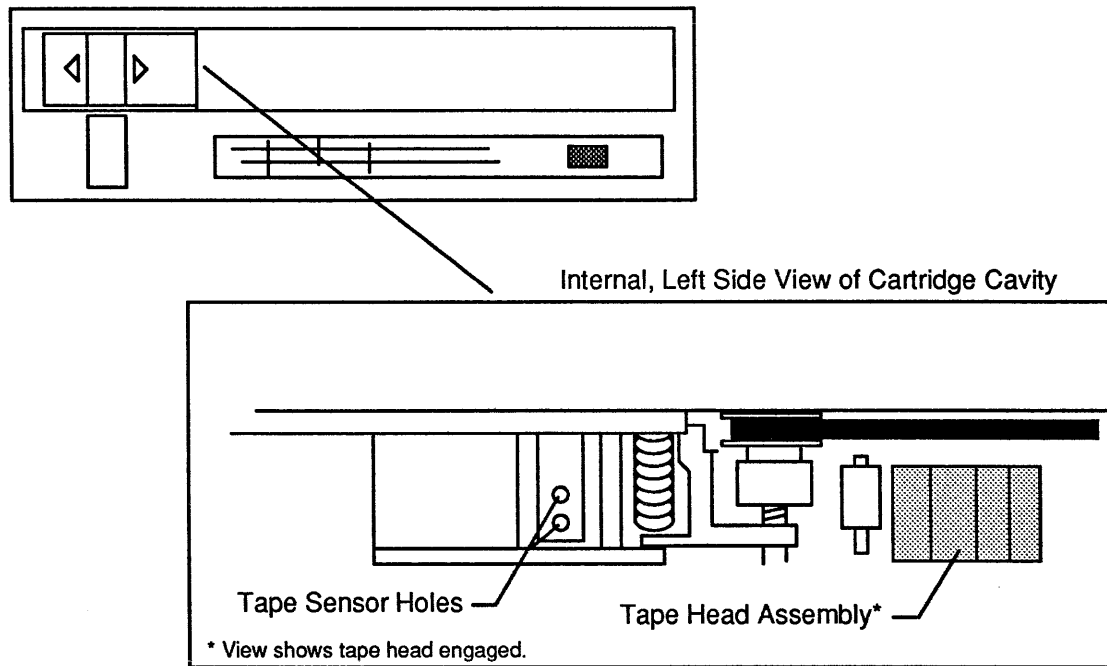

Figure B.3. Location of the Sensor Holes and Tape Head Assembly
3. Visually inspect the interior of the Tape Drive. If contamination is visible in the sensor holes or within the cartridge cavity of the drive, then carefully blow out the visible dust using low pressure air from an aerosol can. The location of the sensor holes is shown in Figure B.3 on the following page.
2. Follow the instructions provided in the streamer head cleaner kit, and clean the head assembly. Figure B.3 shows the location of the tape head assembly. If you do not have the head cleaning kit, then skip to step 3.